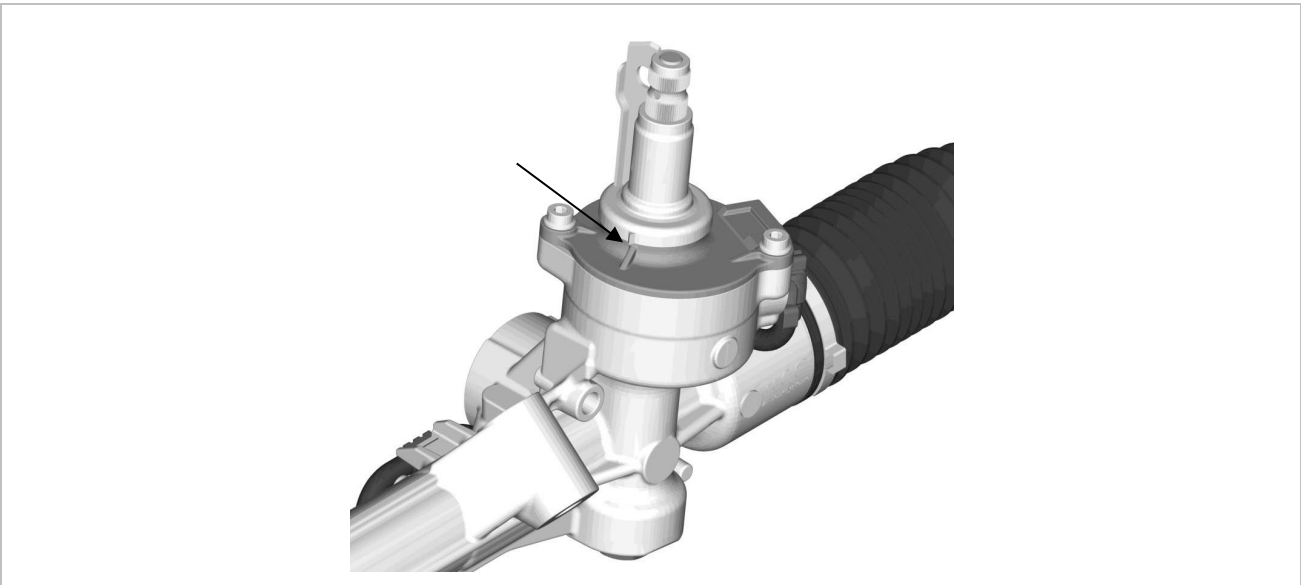

Fig. 2: Marks on the protective cap of the steering input shaft and on the sensor cover
- ▶ On the variant with markings, the mark of the protective cap on the steering input shaft and the mark on the sensor cover must coincide (refer to Fig. 2).